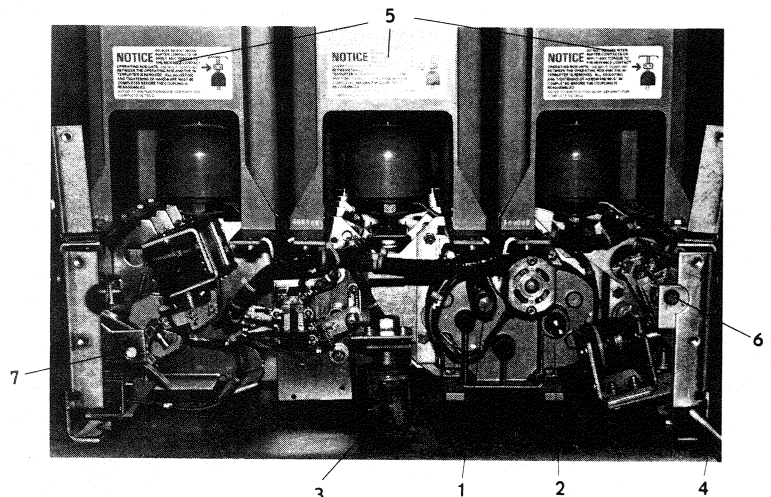
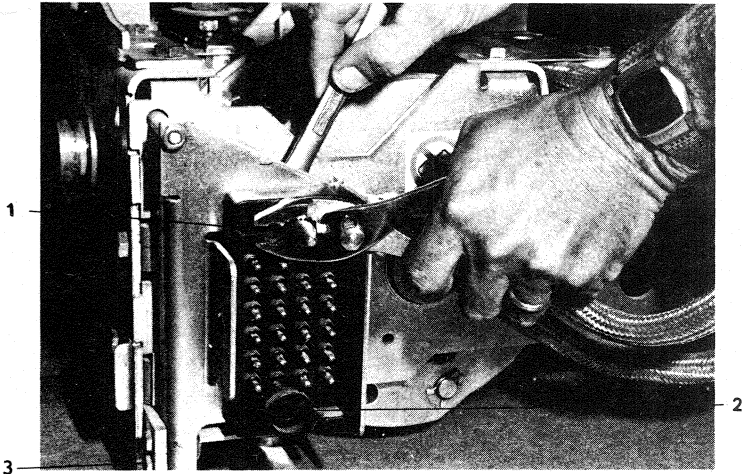
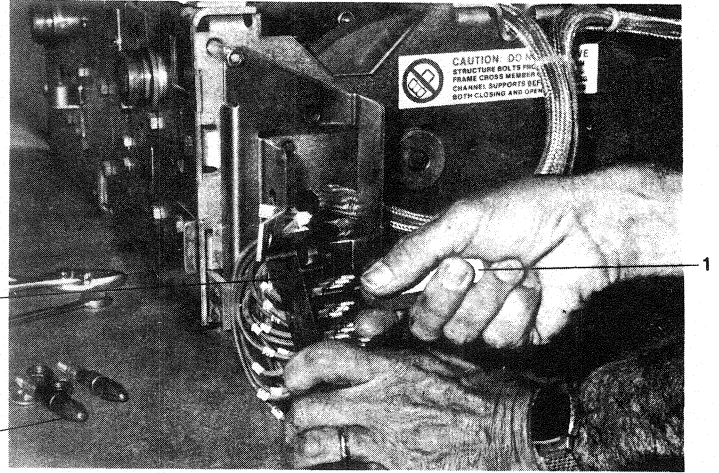

Fig. A1 Power/Vac\* Breaker with Front Angle Plate Removed
Fig. A5 Secondary Disconnect
Fig. A6 Secondary Disconnect Pins Being Removed
With the breaker open and the closing spring discharged, remove the breaker front cover. Disconnect the spring from the operation counter. Remove ten bolts holding the front angle plate to the mechanism frame. Remove the 3 sheet-metal wire covers below each vacuum interrupter assembly. Carefully swing the left side of the front angle plate away from the mechanism to disconnect the charge/discharge flag operating rod from the flag. Disconnect the other end of the rod from the spring charge indicator arm. Fig. A1 shows front of breaker with Front Angle Plate removed.
With the front angle plate removed the clutch assembly (1) Fig. A1, may be slipped off the manual drive shaft of the gearmotor.
Remove the front angle plate and the operations counter. The swivel caster, (3) Fig. A1, may be removed by removing bolt holding it to the breaker frame.
To remove the secondary (control power) disconnect block, extend the secondary disconnect handle, (4) Fig. A1, and remove the nuts from the two secondary disconnect guide pins, (1) Fig. A5. Remove the control wiring from the secondary disconnect block using Pin Removal Tool, (1) Fig. A6, P/N 453300-1 from AMP, Inc.
To remove the secondary disconnect handle remove the two bolts, (3) Fig. A5, which connect it to the secondary disconnect assembly at the rear of the breaker. With the bolts removed, pull the handle down and out through the front of the breaker.